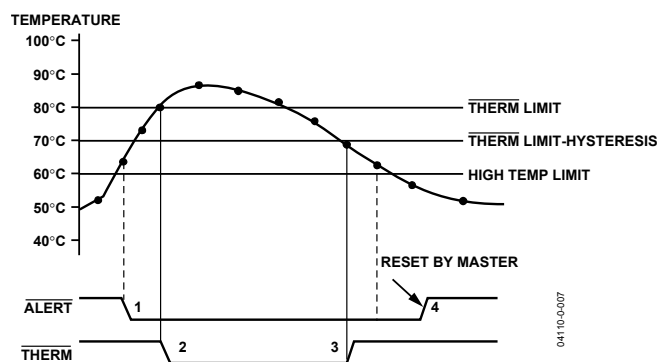

Figure 19. Operation of the $\overline{\text{ALERT}}$ and $\overline{\text{THERM}}$ Interrupts
Figure 19 shows how the $\overline{\text{THERM}}$ and $\overline{\text{ALERT}}$ outputs operate. A user may wish to use the $\overline{\text{ALERT}}$ output as a $\overline{\text{SMBALERT}}$ to signal to the host via the SMBus that the temperature has risen. The user could use the $\overline{\text{THERM}}$ output to turn on a fan to cool the system, if the temperature continues to increase. This method would ensure that there is a fail-safe mechanism to cool the system, without the need for host intervention.
3. The $\overline{\text{THERM}}$ output deasserts (goes high) when the temperature falls to $\overline{\text{THERM}}$ limit minus hysteresis. In Figure 19, the default hysteresis value of 10°C is shown.